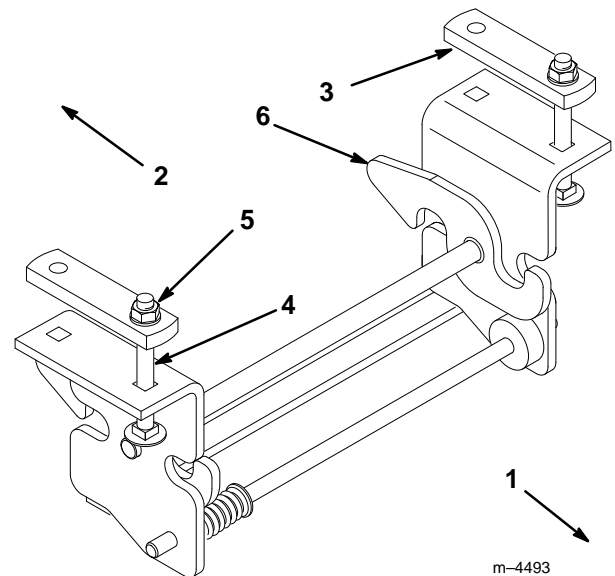

Figure 1
1. Push one bolt upward through the rear hole on each side of the Attach-A-Matic™, then through a mounting bracket (Fig. 1).
2. Begin to thread a locknut onto the end of each bolt (Fig. 1).